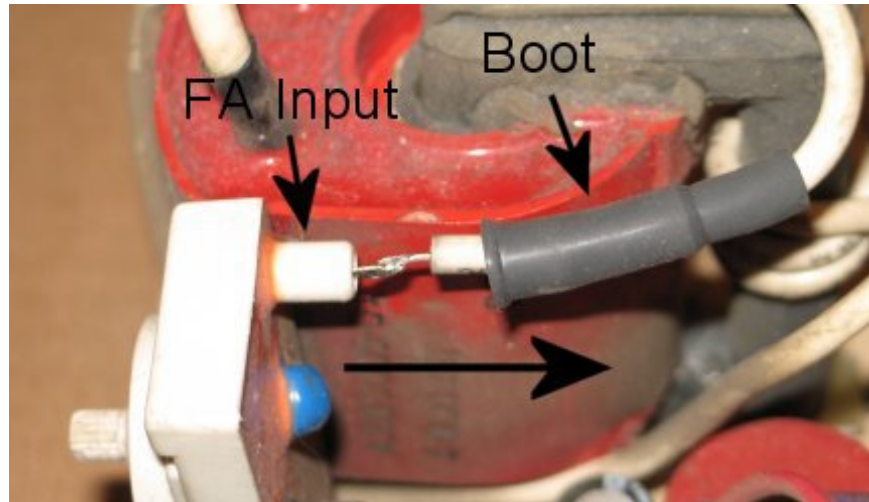

Figure 5: Flyback / Focus Assembly Connection
1. Unsolder and remove the white wire going between the original Flyback and the Focus Assembly input terminal (topmost connection), and retain the rubber boot (See Figure 5), which will be used later.
10. Solder this remaining Flyback wire to the input lug on the Focus Assembly (the lug you disconnected in step 1) (See Figure 5).